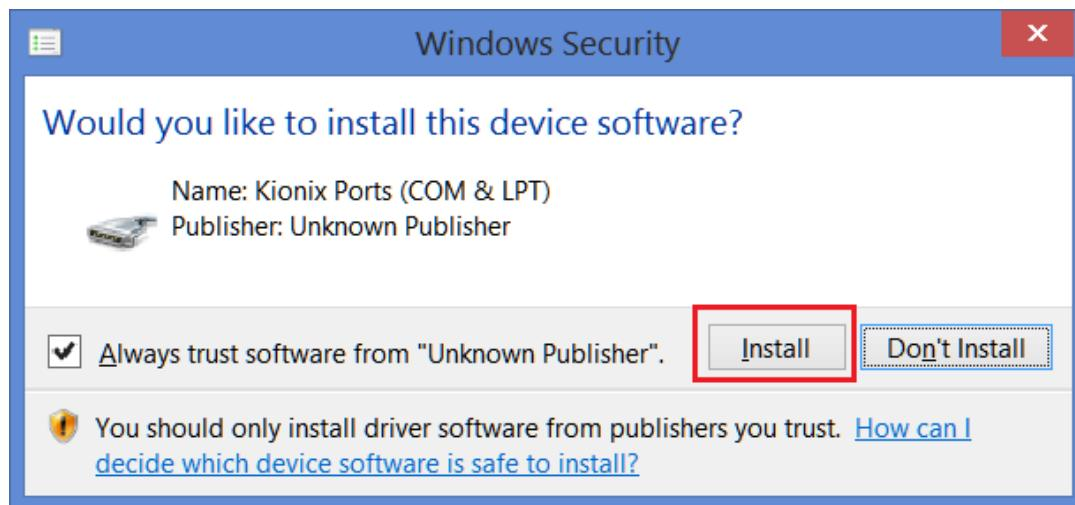

Figure 21. Update Driver Software – 7
9. Windows will prompt you to install the driver, please select “Install” (Figure 21).